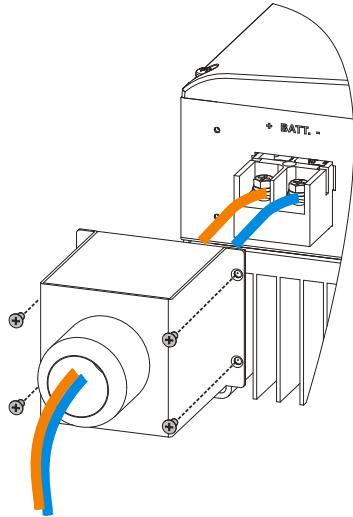

Figure4-17 Battery wiring
- Step 2 Prepare wires and strip the insulation layer of wires for about 7mm. Loosen the nylon cable gland in the battery cover and draw the wires through it, cover the heat-shrinkable sleeve, crimp the terminals, tighten the heat-shrinkable sleeve and lock them in the inverter, as shown in Figure4-17.